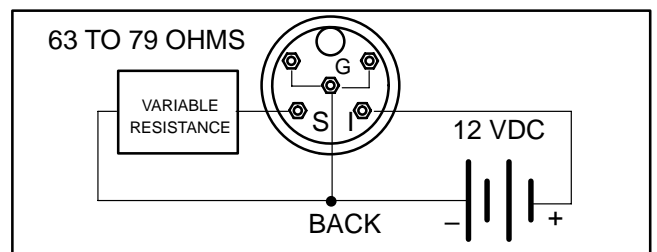

Figure 13
1. Connect the temperature gauge to the variable resistance and DC voltage source (Fig. 13).